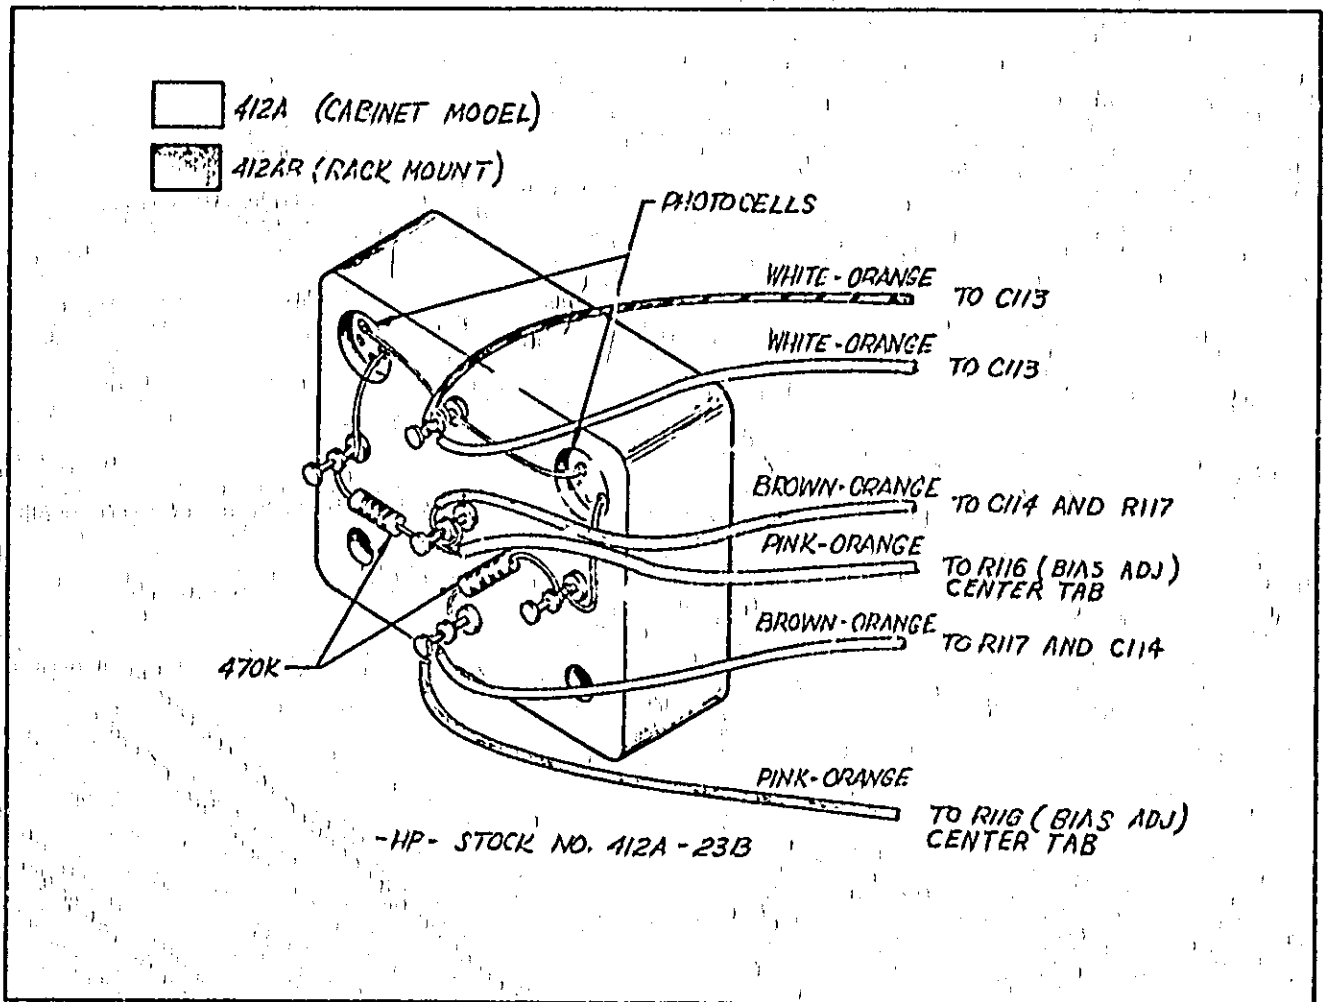

Figure 1. Demodulator Assembly
2. Install replacement assembly. Connect wires to agree with Figure 1.
\*Note: Units with serial 339-00330 and below were equipped with a 3-terminal assembly (-hp- Part No. 425A-23B). The 5-terminal assembly is an improved, direct replacement part for these instruments. To install, remove 3-terminal assembly to be replaced. Mount replacement assembly. Connect wires to agree with Figure 1.